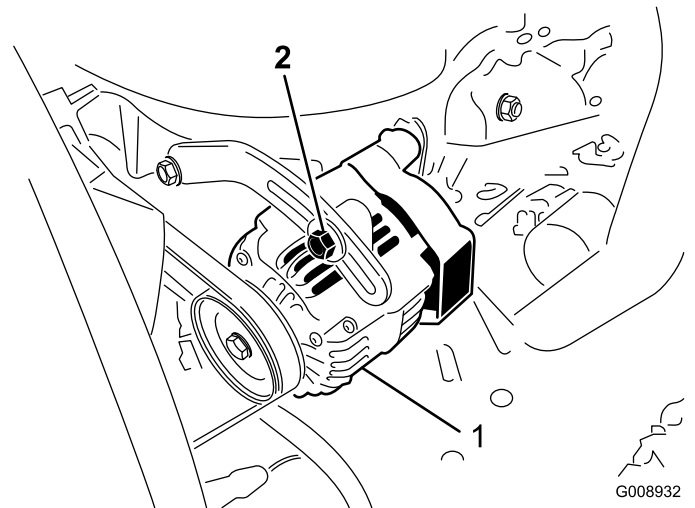

Figure 78
Check the condition and tension of the belts (Figure 78) after every 100 operating hours.
2. If the deflection is not 3/8 in. (10 mm), loosen the alternator mounting bolts (Figure 78). Increase or decrease the alternator belt tension and tighten the bolts. Check the deflection of the belt again to ensure that the tension is correct.